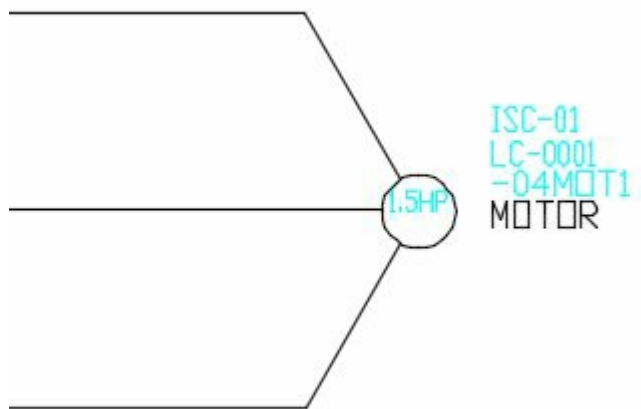

Figure-14. Motor after placement
- The motor after placement will be displayed as shown in Figure-14.